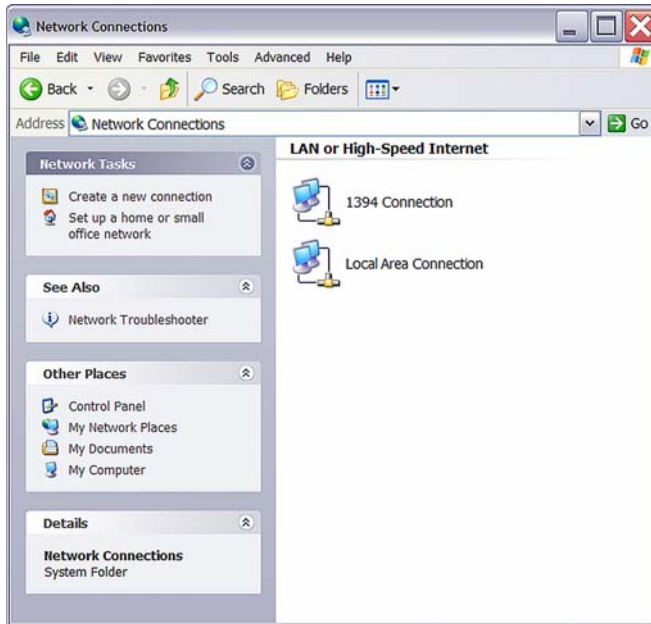

Figure 11. Network Connections
1. Open the Windows Control Panel and double-click the **Network Connections** icon, see Figure 11.